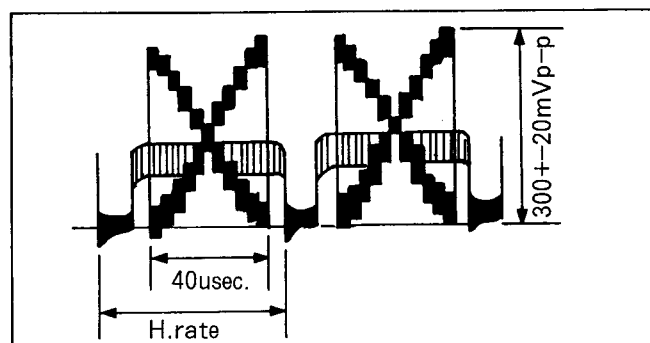

Fig. C15
- (1) Aim the camera at the gray scale chart.
- (2) Connect the scope to TP514 and trigger with Pin 7 of FP306 (H-Rate).
- (3) Adjust the Camera Unit to obtain 40usec picture frame as shown in Fig. C15.
- (4) Adjust the AGC Control (VR324) so that the signal level is 0.30V $\pm$ 0.02Vp-p.